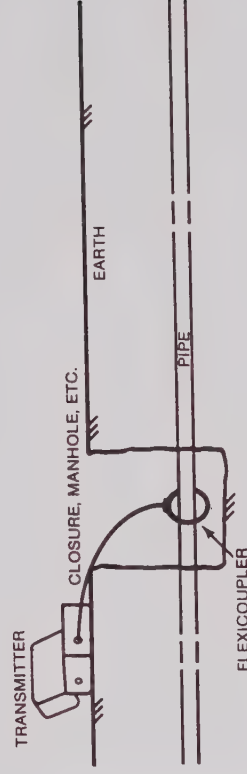

Figure 2-4.
4. Plug the jack end of the flexicoupler cord into the RED/BLACK TEST CORD jack receptacle on the transmitter (see Figure 2-4).